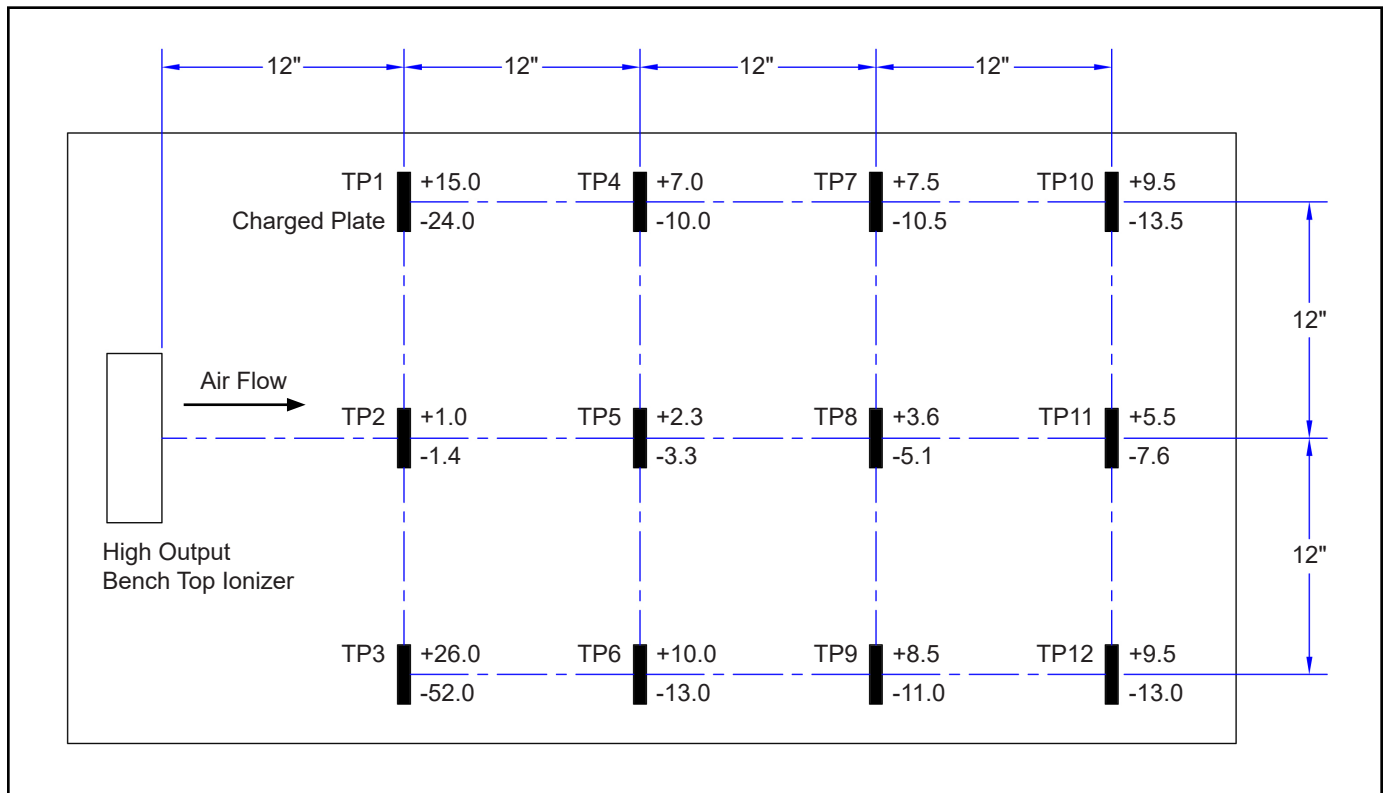

Figure 5. Neutralization (Discharge) Times at 120VAC / 220VAC, 60Hz input
5. Test the neutralization (discharge) time by applying a  $\pm 1,000$  volt charge on the charged plate analyzer. The neutralization (discharge) time should be less than 2 seconds. See figures 5 and 6 for typical discharge times. The required limit per ANSI/ESD S20.20 is "user defined".
The comparative efficiency of benchtop ionizers is determined by a standard test published by the ESD Association: ANSI/ESD STM 3.1. Typical positive and negative discharge times (1000V - 100V) measured using this standard are shown in Figures 5 and 6. The performance of the ionizer was measured with the unit positioned as shown, with the fan speed on high and without a filter.